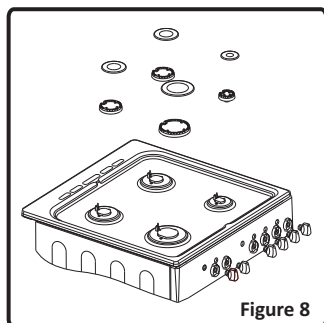

Figure 8
- Remove the burner cap and the upper burner (Figure 8).